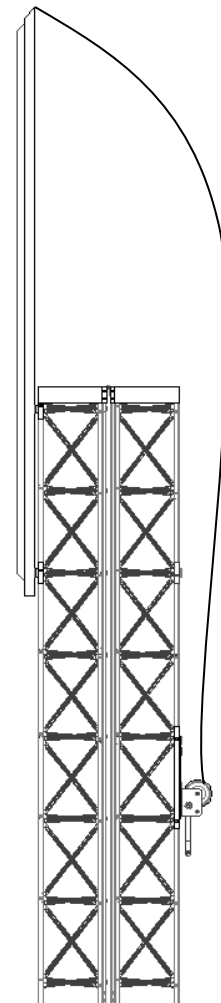

Figure 7 – Tower ready to be raised onto Base Plate
9. Insert the winch cable (item 13) through the hole located at the bottom of the lever pole then onto the winch. Secure the winch cable onto the winch using provided winch hardware (see winch installation instruction sheet). Leave winch cable loose on winch for now.
10. The assembled tower is now ready to be joined with the tower base plate (item 17). All hardware on mounting brackets must be confirmed tight and secure before attaching the tower to the base. **(Note: this task should be performed by at least three people, or with the use of heavy machinery. The two attached tower sections are top-heavy; use proper caution when lifting it onto the tower base plate.)** Use 7/16" x 2 1/4" and 7/16" x 2 1/2" hex bolts and hardware (items 27, 28, 29, 30) to secure the bottom tower section to the tower base plate. See Figure 7.